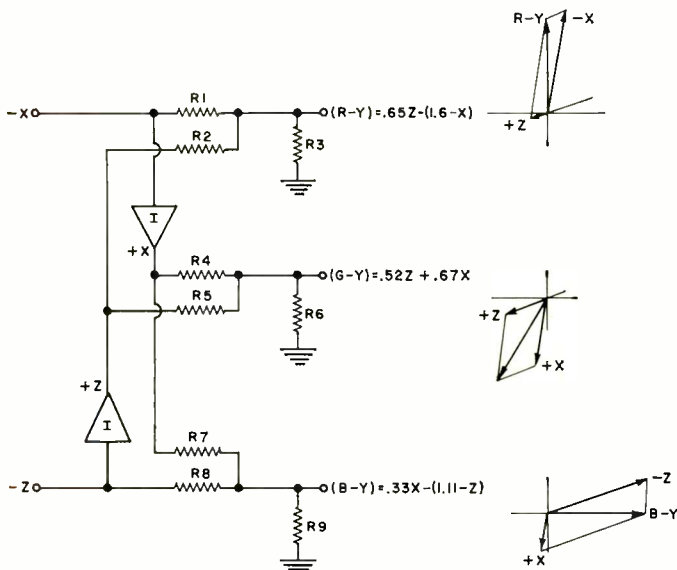

Fig. 7. Principle of matrixing X and Z into R-Y, G-Y, and B-Y.
The principles of the complete matrixing process are illustrated in Fig. 7 where it is assumed that the -X and -Z signals, rather than the +X and +Z, are developed by the demodulators because this simplifies the explanation. If the X and Z signals were positive, the connections of the inverters in the circuit of Fig. 7 would change, but the relative amplitudes would remain the same.
In the matrixing process, only signal polarities and amplitudes are used. As shown in Fig. 7, both X and Z signals are combined in a matrix to produce the three color-difference signals. In this RCA set, for example, the angle between R-Y and the -X vector is 10.9° and the angle between R-Y and the +Z vector is 107°. Based on these angles, trigonometry allows us to calculate the lengths of -X and +Z to produce an R-Y of unity length. As shown in Fig. 7, this turns out to be 1.6 for -X and .65 for +Z.
The -X signal is applied through R1 and the +Z signal is obtained from an inverter and applied through R2 across R3. With the correct resistor relationship, the resultant signal can be made equal to R-Y. The G-Y and B-Y signals are constituted of their respective components of X and Z in the same manner. Note that both polarities of X and Z are required to produce the three color-difference signals. Fig. 7 shows the relative amplitudes of X and Z required to produce the color-difference signals with unity amplitude. In analyzing the actual receiver circuitry, however, it must be remembered that unity amplitude of all three colors rarely occurs. White is shown on the screen when 0.30 red, 0.59 green, and 0.11 blue components (Continued on page 67)
Fig. 7. (A) & (B) Coupling through a capacitor may reduce effective coupling as one RFC may tune out other. (C) Coil separation produces controllable coupling. (D) How RFC's are used in a typical high-pass filter unit.